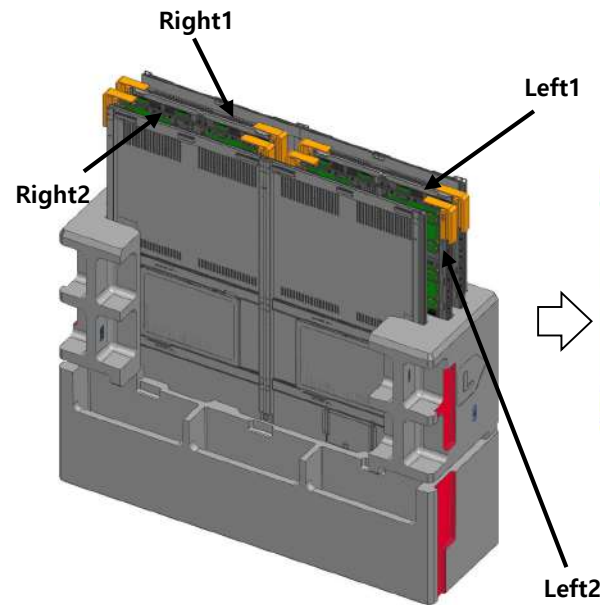

Fig. 2 Packing out
- ① Remove the tape of the top BOX and open it. (Fig.2)
- ② Remove the top-cushion.